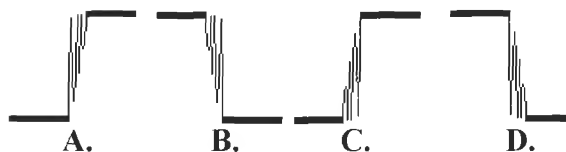

Figure L37-4
- *An unclean input has bounce* as shown in Figure L37-4. Such a bounce is too fast to be noticed on inexpensive oscilloscopes. It would be impossible to see on Winscope. But you see the results of the bounce as the 4017 counts more than one step in each push of the plunger.